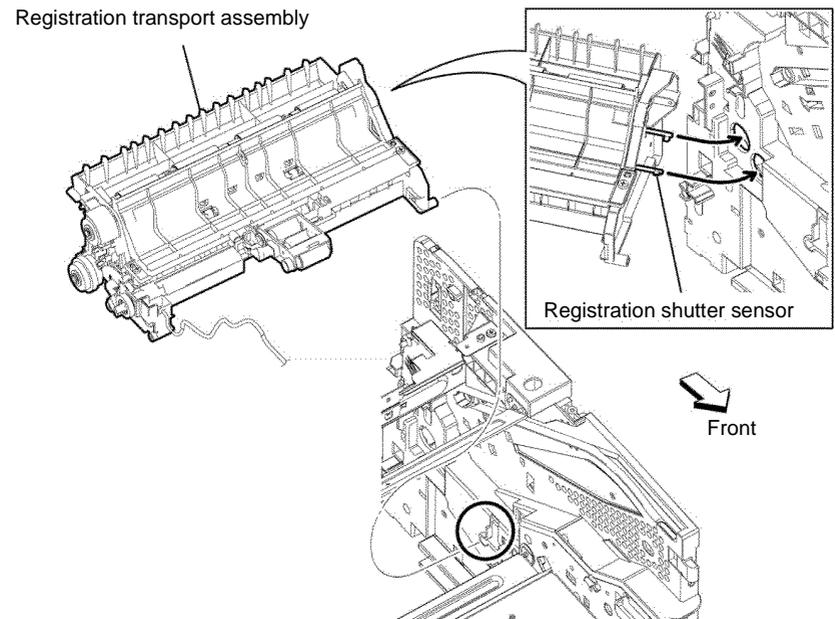

Figure 7 Registration transport assembly installation
2. When installing the registration transport assembly, ensure the position of the boss and the registration shutter sensor is correct, Figure 7.